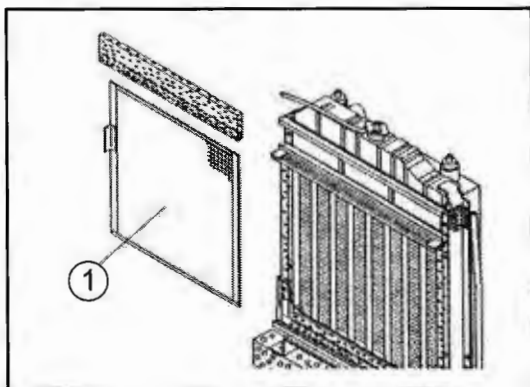
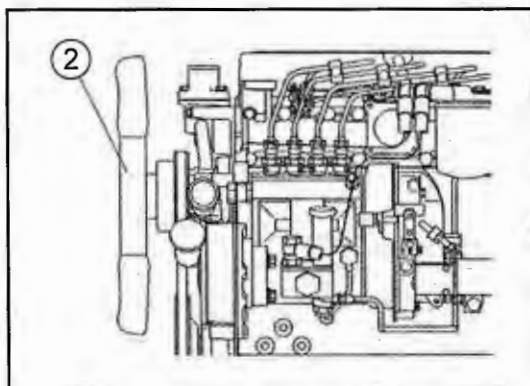

Fig. 29-1 - Radiator Screen
Fig. 29-2 - Cooling Fan
With a jet of compressed air (not exceeding 72.5 psi) clean off any dirt accumulated on the radiator screen (1), (See Fig. 29-1) and cooling fan (2). (See Fig. 29-2).